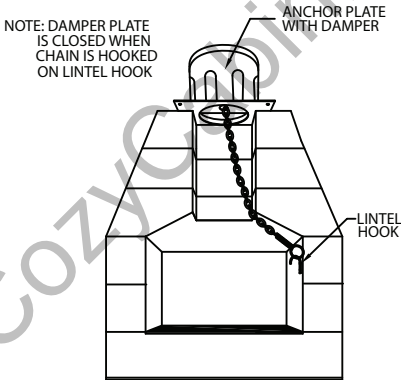

Figure 3
**3b. Lintel Hook:** With the damper plate in the closed (horizontal) position, determine and mark the location for the Lintel Hook. The Lintel Hook should be mounted in a position so as to provide a small amount of tension in the spring attached to the chain (**Fig. 3**). The tension is needed to prevent the damper plate from rattling when closed. Mount the Lintel Hook to the masonry with the screws provided.